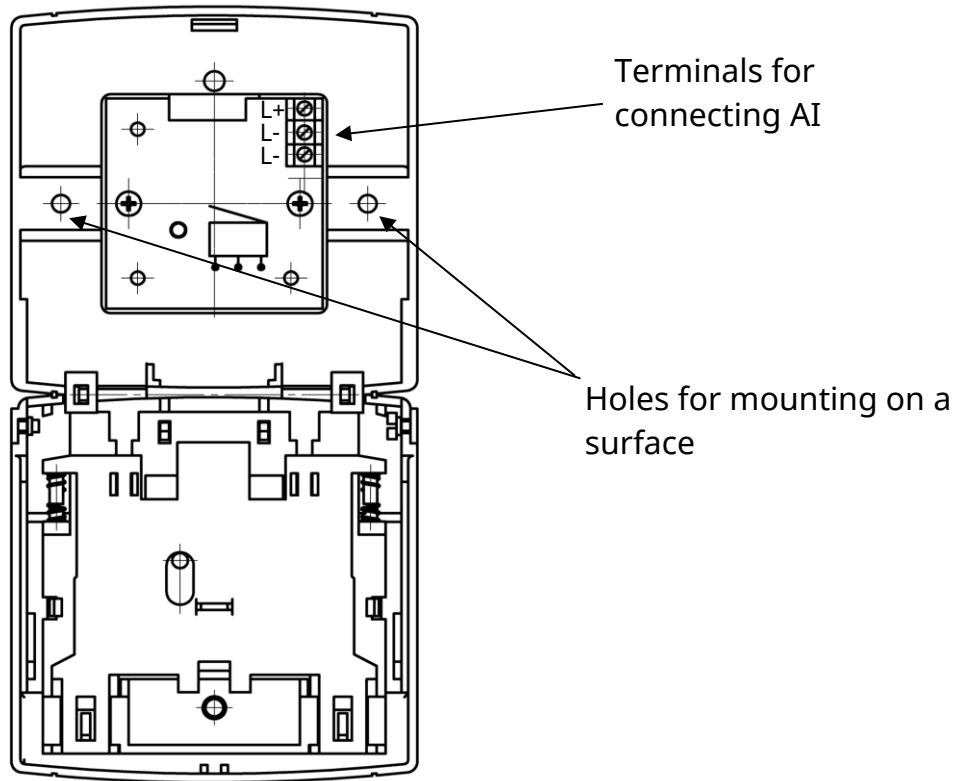
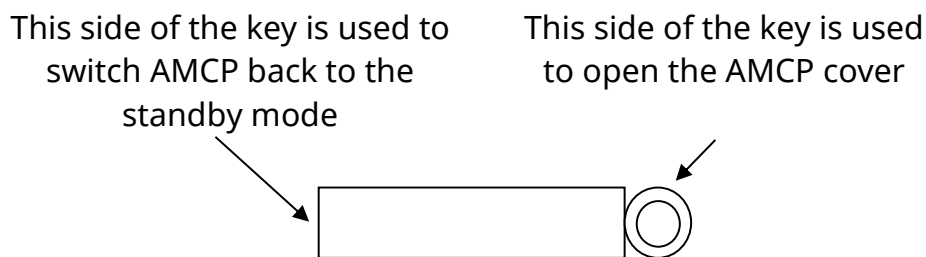

Figure 1 - AMCP mounting and terminals
Figure 3 - AMCP service key
5.1 To connect AMCP to AFAS, see Figure 1. To fix AMCP on a working surface and connect AI, open the cover on the housing using a special key (fig. 3).
Figure 1 shows the location of the terminals for connecting AI in both versions of the AMCP. Negative AI wires are connected to the terminals "L-", and positive AI wires are connected to the terminal "L+" (positive AI wires are the AI wires connected to terminals L1-L4 of the FCP, and negative AI wires are the AI wires connected to terminals G1-G4 of the FCP).
- insert the key (Fig. 3) into the hole in the lower part of the AMCP housing and press it. The arrows on the cover should change color from red to black;